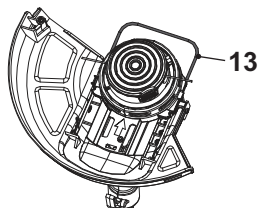

Fig. 13, storage position
2. Push the plant protector (13) in for transport and storage (Fig. 13).